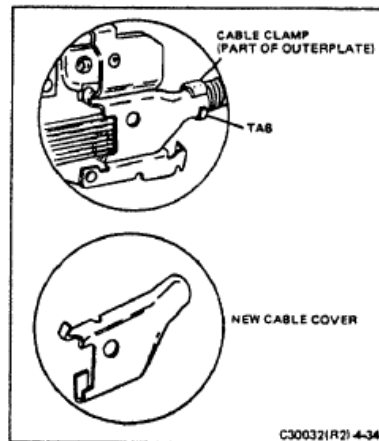

FIGURE 4-34 NEW CABLE COVER
11. Refer to Figure 4-34. Carefully spread one tab of the cable clamp just enough to permit removal of the cable retaining spring and slip the spring out of the clamp.